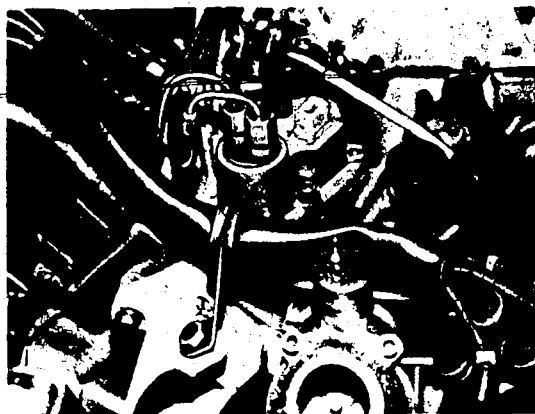

Fig. 1
4. Fit the warm-up regulator directly to the manifold without the mounting piece (Figs. 1 and 2).
11. Fit the ignition lines (Figs. 1 and 2) and secure with new holder. With the engine 100, before carrying out this step fit the new rubber sleeve over the ignition cables (cyls. 1-4).